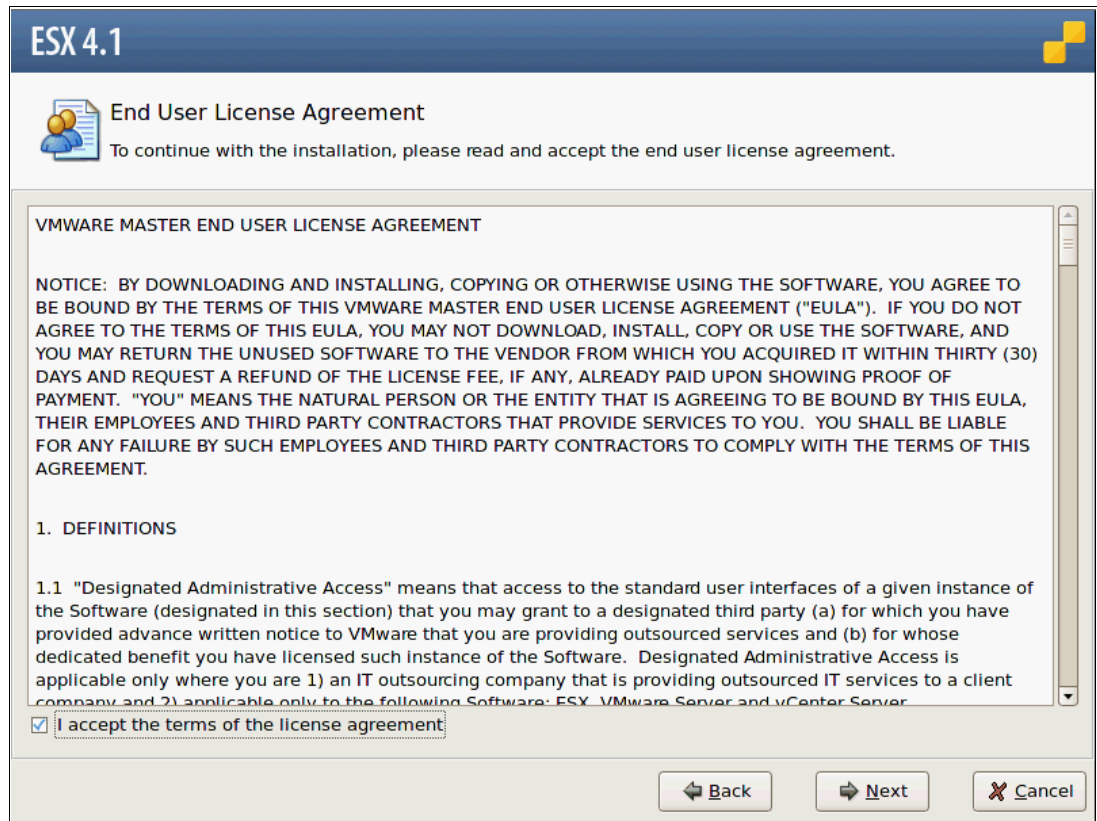

Figure 22-14 ESX End User License Agreement
3. On the End User License Agreement window (Figure 22-14), accept the license terms and click **Next**.